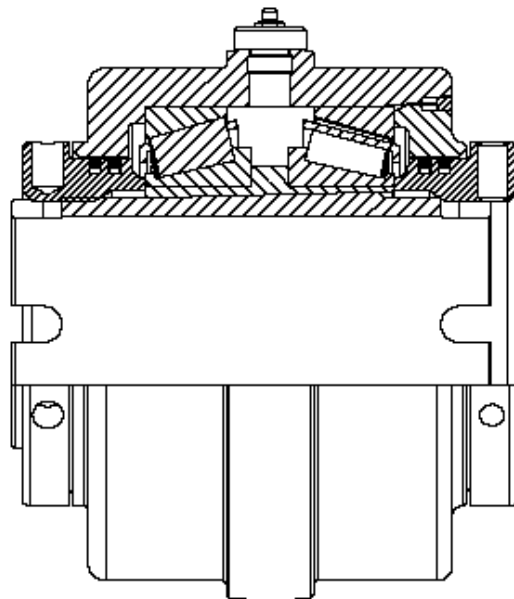

Figure 5 - Expansion Type
11. **Expansion Bearing (Figure 5):** Loosen the cap bolts in outer housing so unit is free to align. Inner unit should be located with unit housing in center of outer housing so unit can move freely in either direction. Do not remove shims between cap and base of outer housing. Tighten hold-down bolts. See Table 1 for tightening torques.